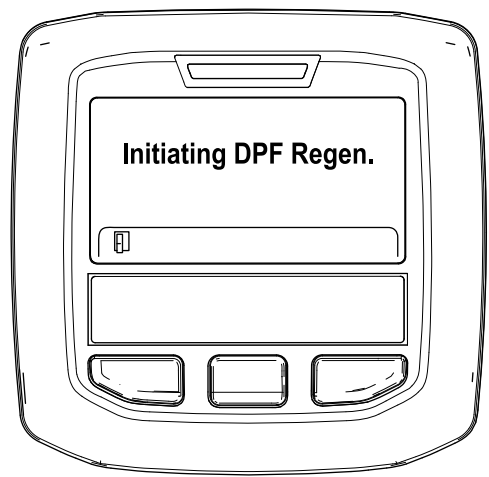

Figure 35
- A. The "Initiating DPF Regen." message displays (Figure 35).